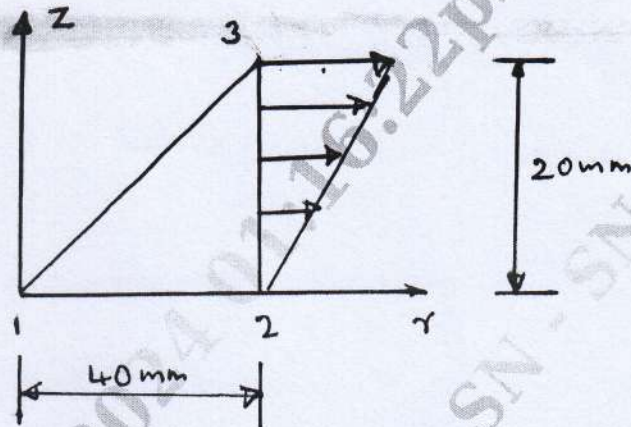

Fig Q9(b)
b. Evaluate nodal forces used to replace the linearly varying surface traction shown in Fig Q9(b)